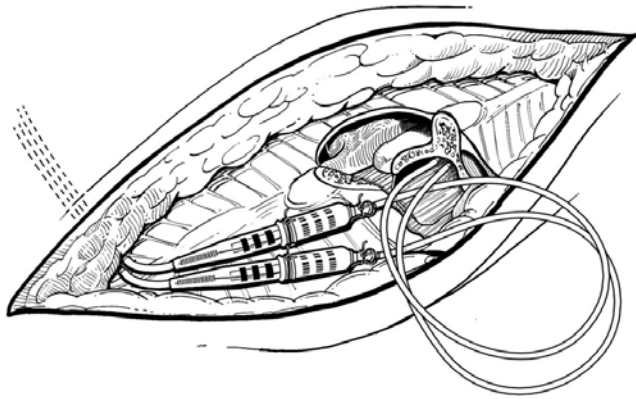

FIGURE 59
- 11 While maintaining lead position, create a strain-relief loop with each of the lead bodies, by coiling the lead bodies near the connector boots (FIGURE 59).